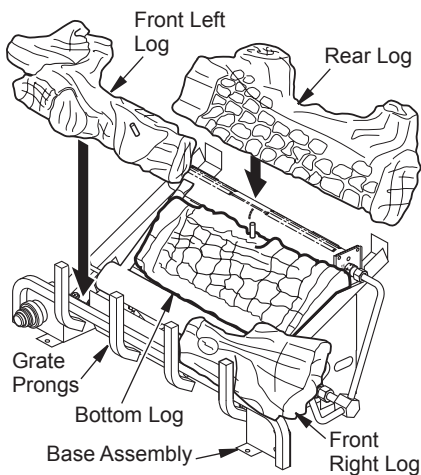

Figure 19 - Installing Log Set
1. Place bottom log in center of the base assembly as shown in Figure 19.
2. Rest rear log in back corner sections of base assembly as shown in Figure 19. Make sure log is completely vertical and not leaning in toward burner where flame will touch the log.
3. Position front right log against right side of grate prongs (see Figure 19).
4. Position front left log against left side of grate prongs (see Figure 19).